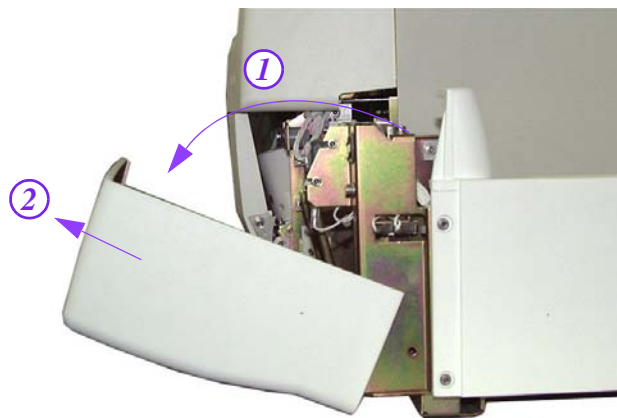

Fig. 7-22 Right front cover
Pull the Right Front cover down, as indicated in (1), and then pull out to remove it, as indicated in (2) (see Fig. 7-22, page 7-20).